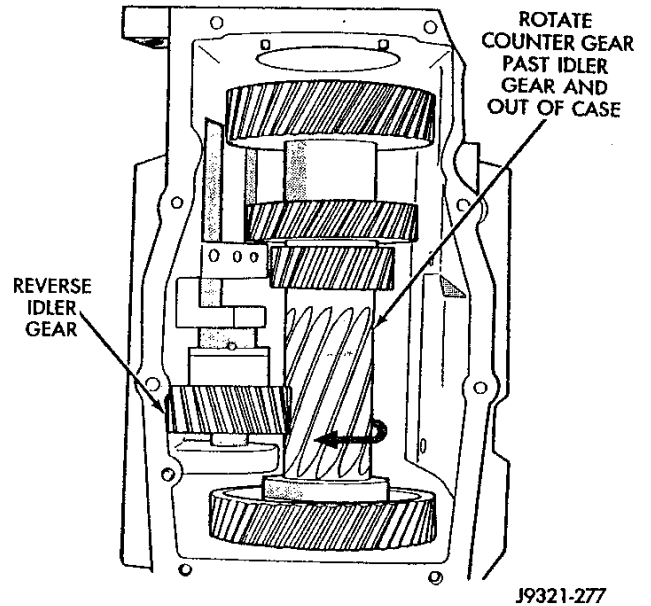

Fig. 13 Counter Gear Removal (With New Style Gear Case)
(7) Position gear case in upright position (Fig. 13).
(8) Remove counter gear from case as follows:
(a) On transmission with new style gear case, counter gear can be removed by rotating it past reverse idler gear and out of case (Fig. 13).